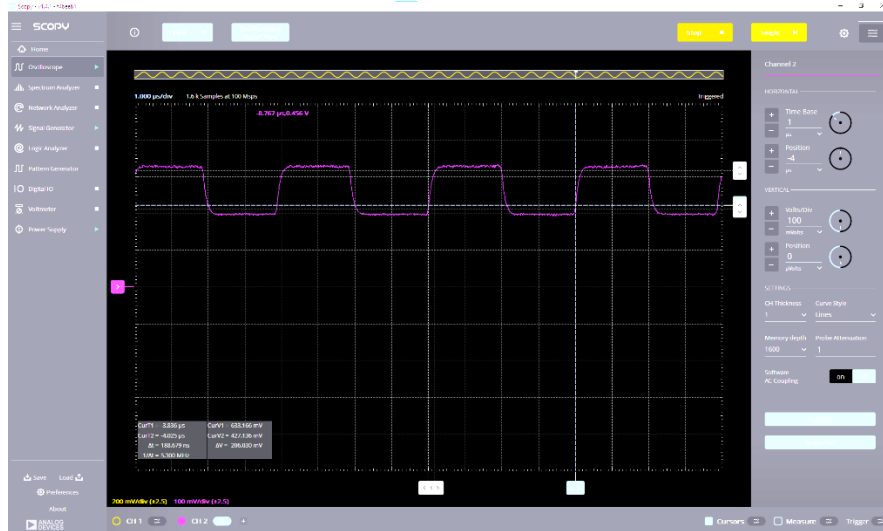

Figure 26. Expected Channel 2 Output Waveform – J2 Jumper Removed
5. **Remove** the jumper on **J2 (Main Board)**. The LED on the LED carrier board should **NOT** be glowing red, and, on the oscilloscope's Channel 2, a waveform similar to what is shown in Figure 26 should be observed. This shows the effect of driving a 1 nF capacitive load with a 100- $\Omega$  compensation resistor  $R_s$ .